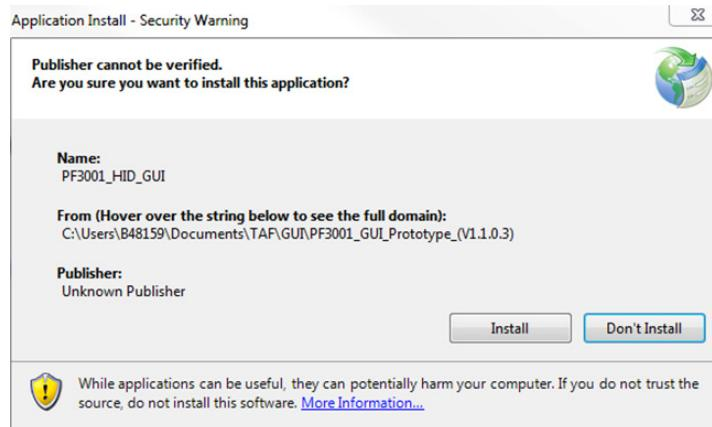

Figure 6. Install Dialog Box
3. Run setup.exe and click on "Install" in the dialog box in Figure 6.